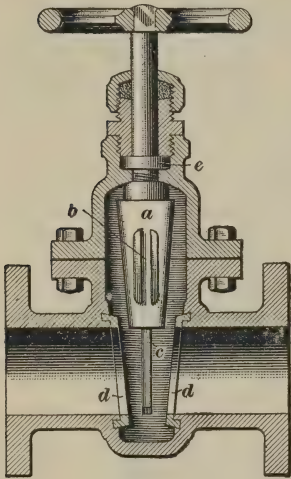

FIG. 74
**115.** The **Chapman valve**, shown in Fig. 74, is a double-gate valve with a solid or cored disk *a* made tapering, which is machined flat on the sides and is guided by a slot *b* in each side of the disk fitting over a guide *c* at each side of the valve body; the disk seats against soft metallic rings *d, d*, firmly embedded at each side of the opening in the run and faced off to the same taper as the disk. The valve shown is an iron-body flanged gate valve. The lower end of the stem is threaded, and the disk travels on this thread, the stem being prevented from rising by the collar *e*.